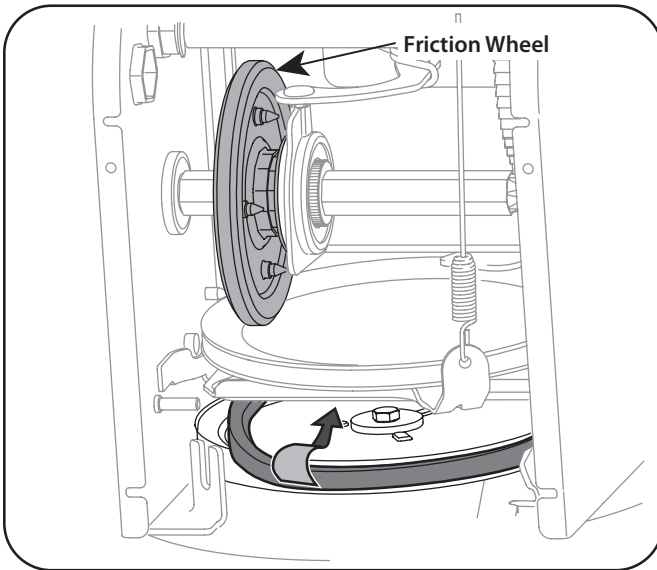

Figure 7-6
7. Remove the belt from around the auger pulley, and slip the belt between the support bracket and the auger pulley. See Figure 7-6.